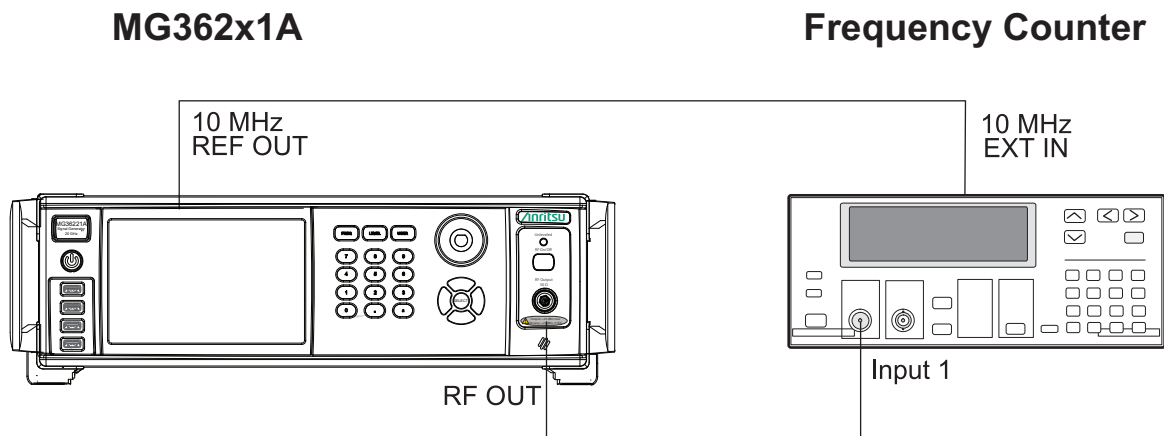

Figure 4-2. Setup for Frequency Synthesis Test
1. Connect the equipment shown in Figure 4-2 as follows: